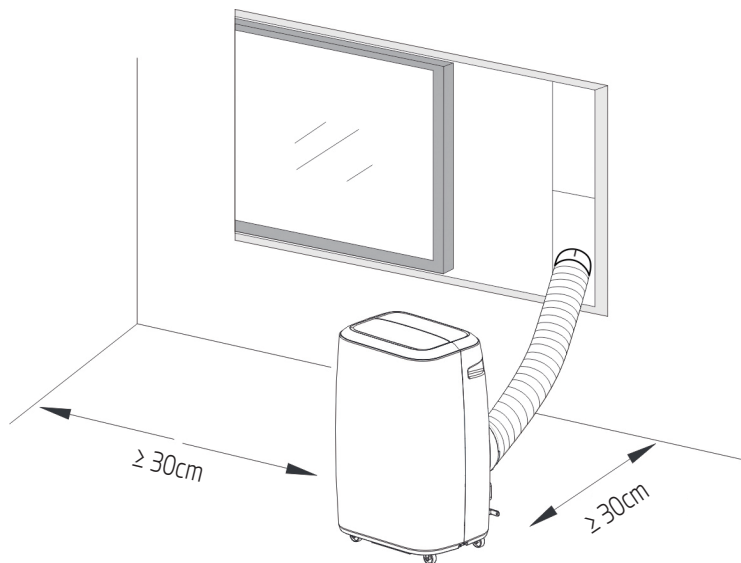

Fig. 8
- A removal air-conditioner shall be installed in the flat and empty place all around. Don't block the air outlet, and the required distance around should be at least 30cm. (See Fig. 8)